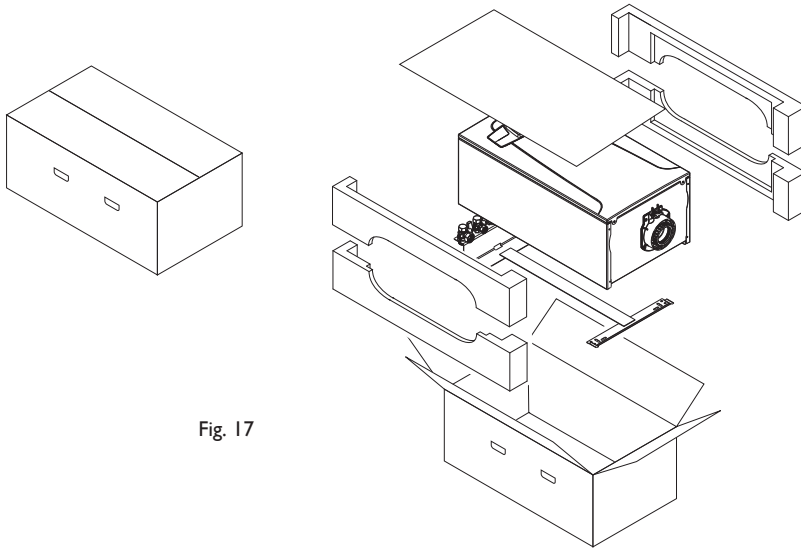

Fig. 17
1. Remove staples, open flaps and remove the cardboard sheet. Remove the polystyrene side pieces and literature. Two people can then lift out the boiler (Fig. 17).